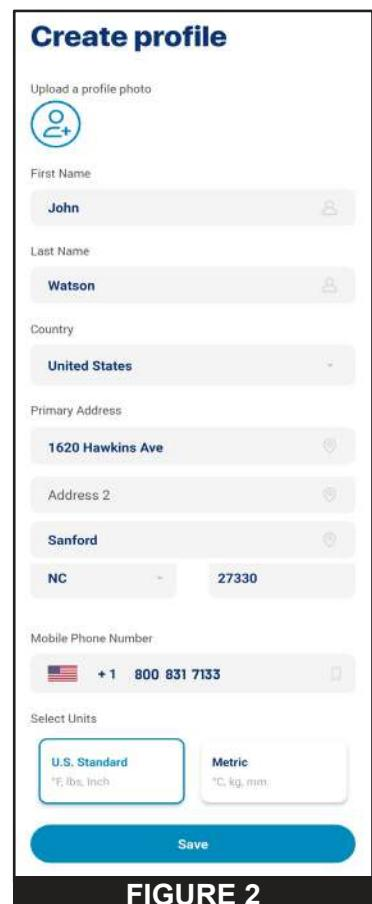

FIGURE 2
- After verification, the Create Profile screen will display. See **FIGURE 2**.